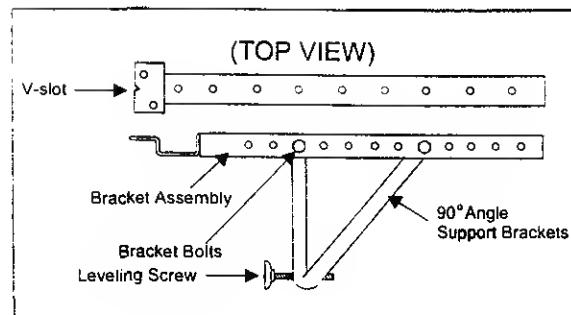

Fig. 13
A. Attach the **bracket assembly** to **90° angle support brackets** (Fig. 13) using (2) **1 1/2"** **bolts**